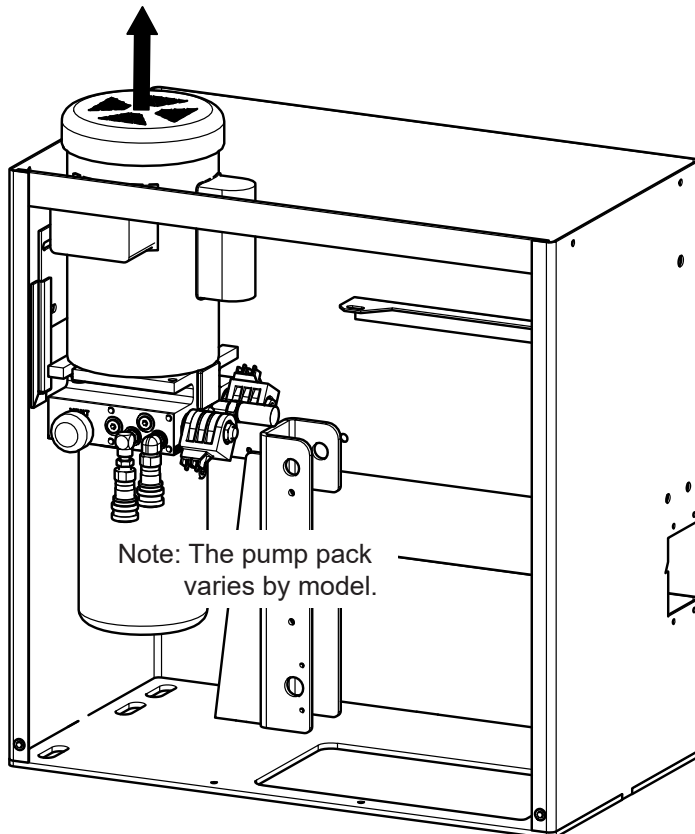

Figure 3. Remove Motor and Pump Pack
9. Lift motor and pump pack out of bracket mount and set assembly on blocks or floor of operator (Figure 3).